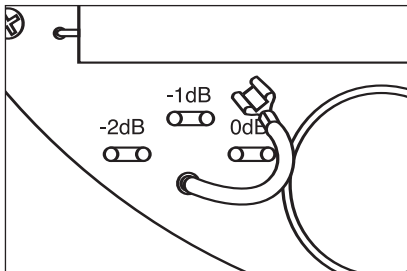

Figure 21 Setting the bass jumper.
11. Setting the bass jumper. Listen to a well-recorded piece of music at the user's favorite listening position. Listen for bass boominess, particularly when the speaker is placed near a corner. Remove the speaker by grasping the tabs and rotating counter-clockwise. Adjust the bass jumper (-1dB, -2dB) accordingly. (See Figure 21).